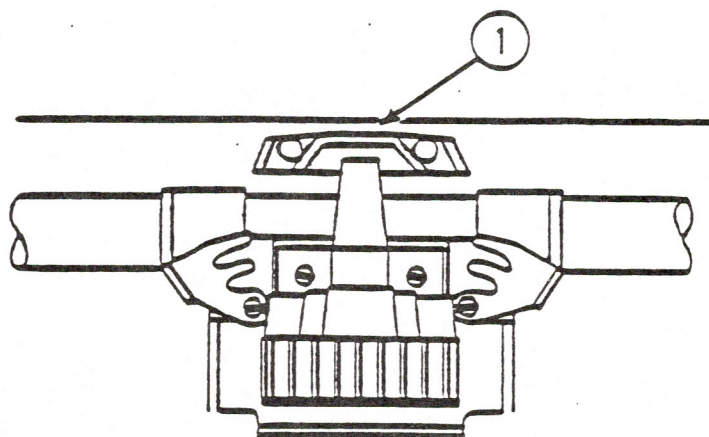

FIGURE 12
8. Clean the dot head (Figure 12, #1) with a low residue cleaner, such as isopropyl alcohol or freon, and a lint-free cloth.